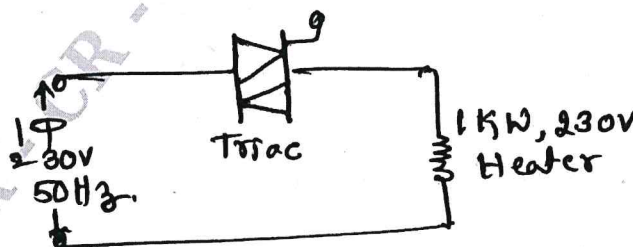

Fig Q7(b)
- b. A single phase full wave A.C voltage controller operates on a single phase supply voltage of 230V rms, at 50Hz. If the triac is triggered at a delay angle of 45°, during each half cycle of input supply. [Refer Fig Q7(b)] Calculate :